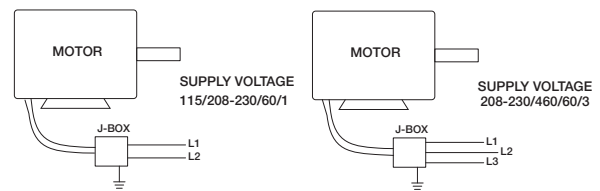

Figure 6 - Typical Wiring Diagram
- Mount and wire safety disconnect switch under motor cover. Wire control switches at ground level, refer to Figure 6.